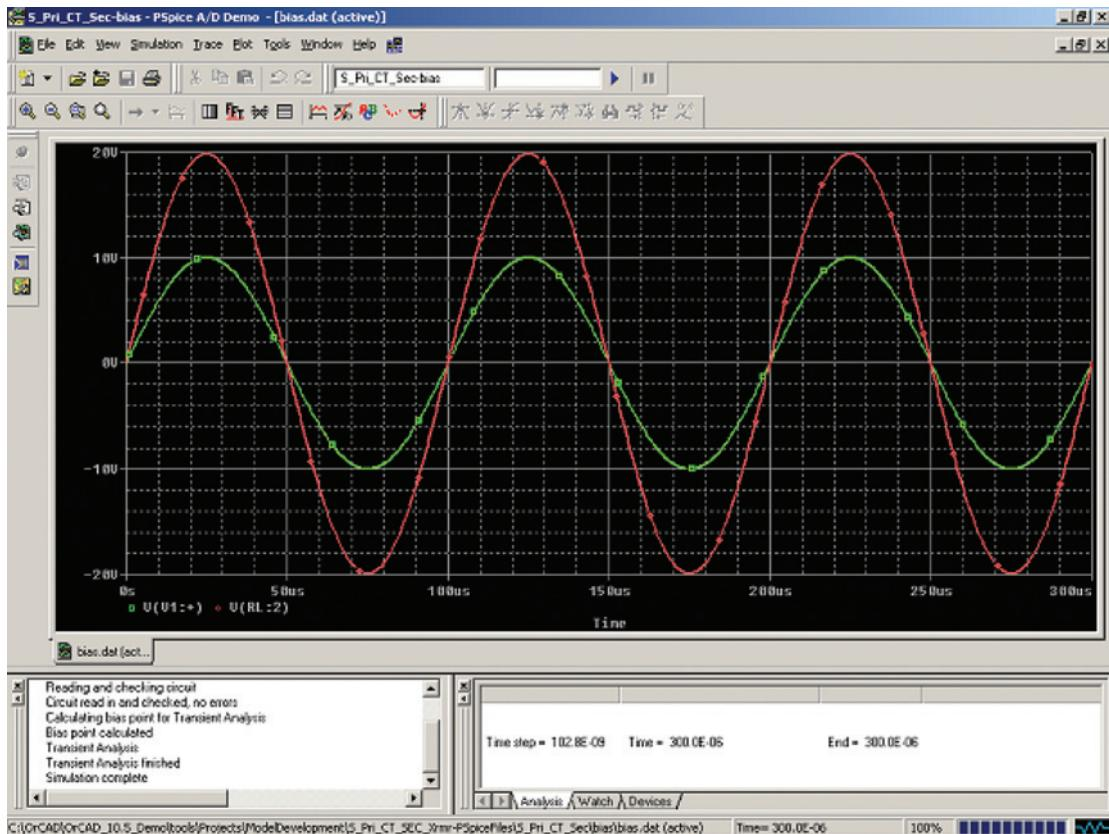

Figure 7-48 PSpice probe window for the center-tap transformer.
**Start the simulation** by clicking the **Run PSpice** button. PSpice runs the simulation and displays the results in a probe window as shown in Fig. 7-48. The voltage curves show that the transformer functions as a 1:2 step-up transformer since the output (red marker curve) is twice as high as the input (green marker curve). Additional tests (e.g., frequency response) could be performed to validate the circuit model further, but these will not be discussed here.